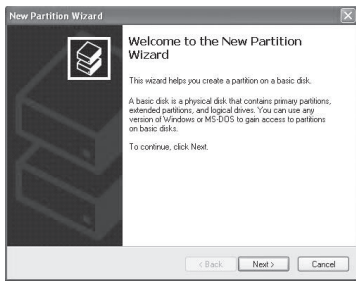

Figure 8
5. The **New Simple Volume Wizard** or **New Partition Wizard** will appear. Please follow the **New Simple Volume Wizard** or **New Partition Wizard** step by step instruction to complete the hard disk drive formatting procedure, see **Figure 8**.